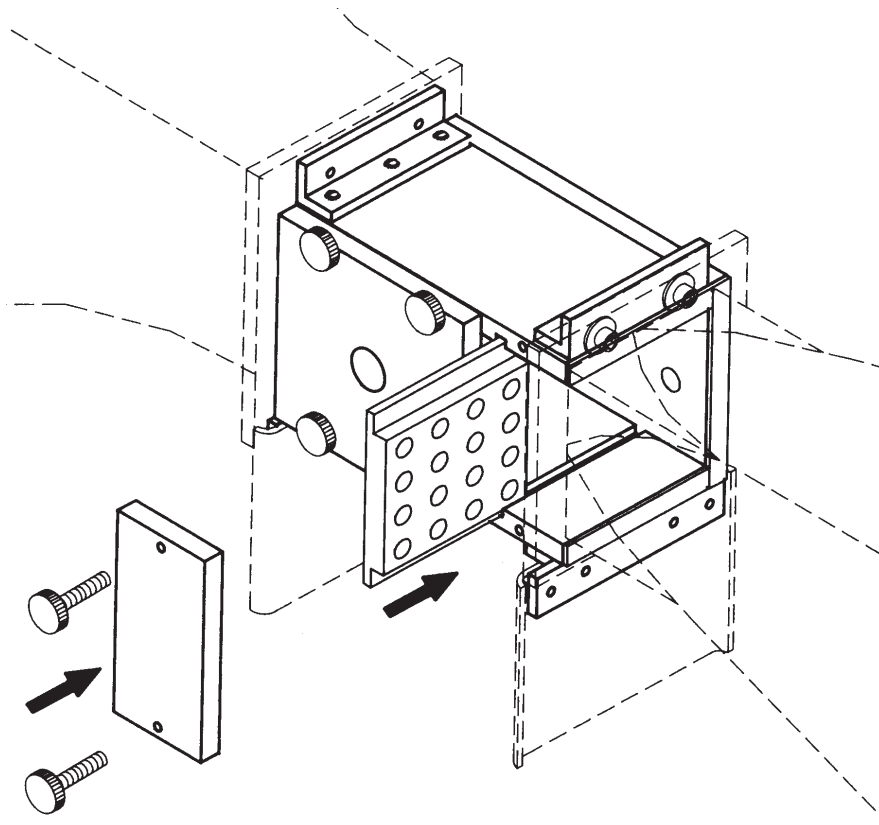

Figure 4: Restrictive Plate Placement
3. Slide restrictive plate into the slots in the center of the wind tunnel. Keep the flat side upstream. Refer to Figure 4 for the proper orientation of the restrictive plate. Or remove the plate if you don't need it.